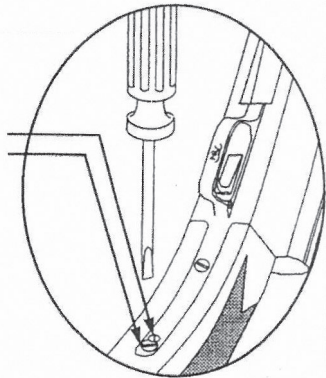

FIG. 1
1. Remove the two slot head screws from receiver lower butt stock mounting tang (see Fig. 1). Remove the lock screw first – then the long screw.